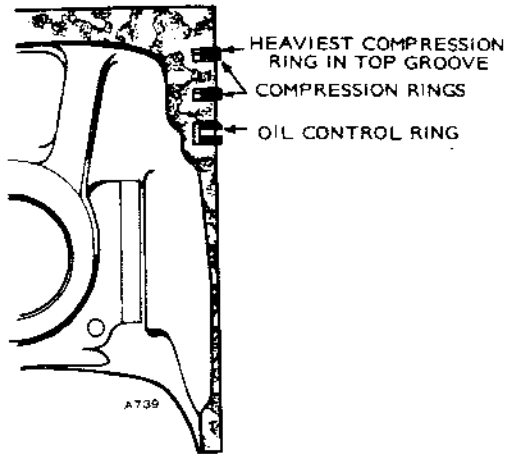

FIGURE 43. PISTON RINGS
3. Install the rings on the pistons starting with the oil control ring (Figure 43). Use a piston ring spreader to prevent twisting or excessive expansion of the ring. Compression rings have a dot or the word "top" on one side of the ring to indicate which side faces the top of the piston. Unmarked piston rings can be installed either way. The oil control ring has an expander; install the expander first and then close until the expander ends butt. The joint should be 180 degrees from the gap of that ring.